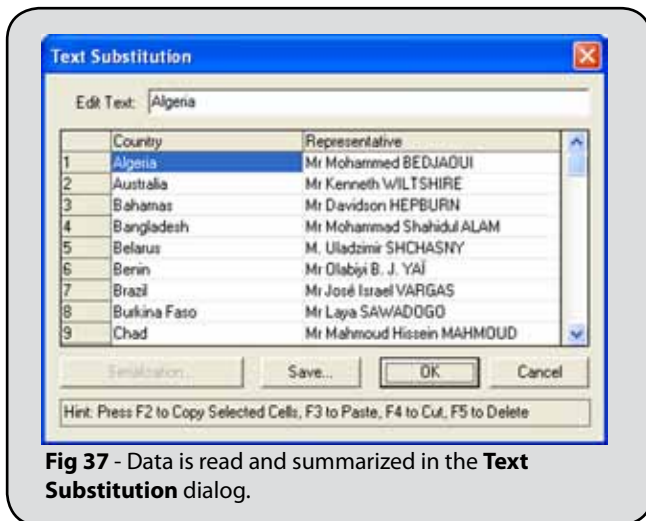

Fig 37 - Data is read and summarized in the **Text Substitution** dialog.
2. The **Text Substitution** dialog will open. (Fig. 37)